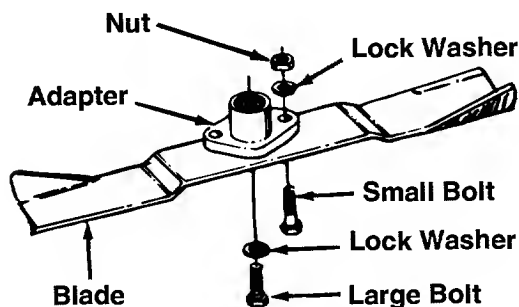

FIGURE 24A.—50" Deck
2. **50" Decks only:** Remove the two bolts, lock washers and nuts holding the blade to the adapter. See figure 24A.